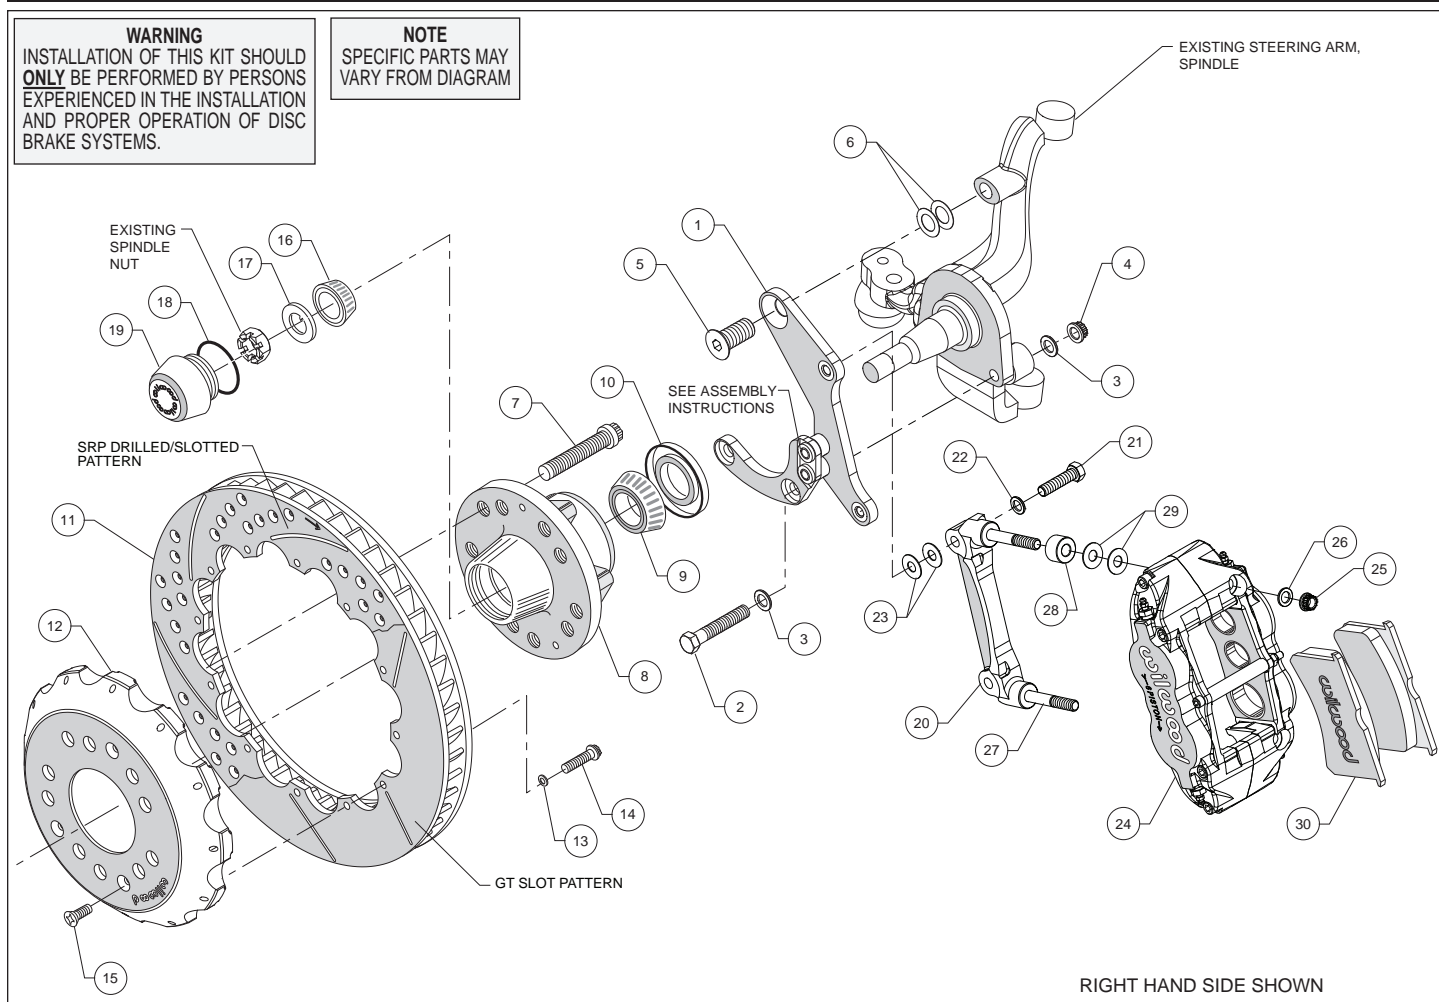
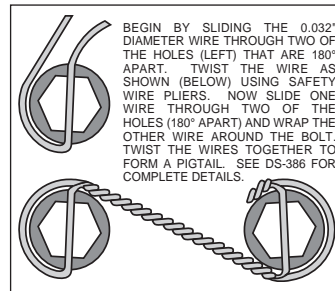
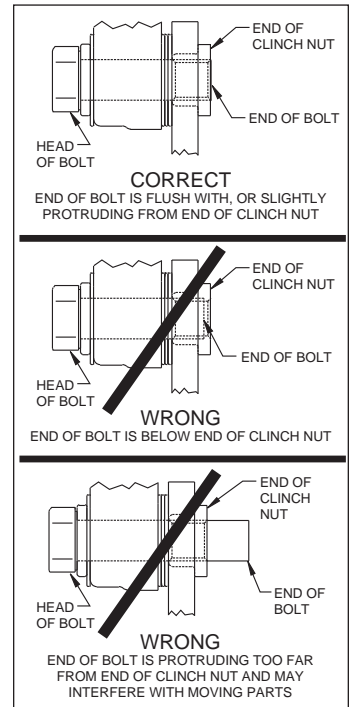

Figure 1. Typical Installation Configuration
Figure 3. Safety Wire Diagram
Figure 4. Clinch Nut Engagement Diagram
Assembly Instructions (numbers in parenthesis refer to the parts list and Figure 1 on the preceding pages): **CAUTION:** All mounting bolts must fully engage clinch nuts. Be sure to check that all bolts are either flush or protruding through flanged side of clinch nut after shimming, Figure 4.
•The spindle bracket (1) has been assembled at the factory for alignment purposes. Loosen the two bolts that secure the brackets together so that the bolts are hand tight only. This will enable the bracket assembly to be adjusted to accommodate various spindle tolerances during assembly. Align bracket with the two lower holes on the spindle face and attach using bolts (2), washers (3), and secure using nuts (4), as shown in Figure 1 and Photo 1. Install bolt (5) through top of bracket while placing shims (6) between bracket and spindle, Figure 1. Initially use two .024" thick shims (6) on the top bolt between the bracket and upright. Temporarily tighten the mounting bolts. Ensure that the flanged heads of the clinch nuts in the bracket are facing outboard, Photo 1. **NOTE:** The bracket must fit squarely against the mounting points on the spindle. Inspect for interference from casting irregularities, machining ridges, burrs, etc. Some spindles may require a small amount of grinding to clear the bracket assembly in the area of the bracket-to-bracket spacers.
•Check that the bracket is aligned parallel to the rotor by assembling and installing the hub/rotor per the step below. If not, adjust by adding or subtracting shims (6) between the spindle and bracket, Figure 1.
•Install wheel studs (7) into the hub (8), Photo 2. Torque to 77 ft-lb. **NOTE:** There are two five lug patterns in the hub (5 x 4.50 and 5 x 4.75). Ensure the correct hub stud pattern is being used to fit the wheel application.
•Pack the large inner bearing cone (9) with high temperature disc brake bearing grease (available from your local auto parts store) and install into the backside of the hub (8), Photo 3.
•Install the grease seal (10) by pressing into the backside of the hub (8), flush with the end of the hub, Photo 3.
- Orient the rotor (11) and the hat (12) as shown in Figure 1 and Photo 4. Attach rotor to hat using bolts (14) and washers (13). Using an alternating sequence, apply red *Loctite*® 271 to the threads, and torque to 155 **in-lbs**. For an added measure of security, the bolts may be safety wired using standard 0.032 inch diameter stainless steel safety wire as shown in Figure 3. Refer to Wilwood's data sheet DS-386 (available at www.wilwood.com/Pdf/DataSheets/ds386.pdf) for complete safety wire installation instructions.
- Slide the hat/rotor assembly (11/12) onto the hub (8) taking care to align the small countersunk holes in the hat (12) with the small threaded holes in the hub. **NOTE:** *The hat must fit flush against the hub face or excessive rotor run out may result.* Install three flat head screws (15) through the small holes in the hat, Photo 6, and torque to 85 **in-lb**.
- The caliper mount bracket (20) should initially be installed with clean, dry threads on the mounting bolts. Orient the bracket as shown in Figure 1 and Photo 7, and install using bolts (21) and washers (22). Initially place two .035" thick shims (23) on each bolt between the bracket and the spindle bracket (1), Figure 1. Temporarily tighten the mounting bolts. Later, after the caliper alignment has been checked, the mount bolts will be secured using red *Loctite*® 271.
- **NOTE:** *This kit contains distinct right and left hand calipers that must be mounted in a specific direction, as described below.* Lubricate the caliper mounting studs (27) with lightweight oil. Initially place two .035" thick shims (29) and one spacer (28) on each stud between the caliper and the bracket, as shown in Figure 1 and Photo 8. Mount the caliper (24) onto the bracket (27) using lock nuts (25) and washers (26), Figure 1. Ensure that the caliper is mounted so the largest pistons are at the rotor exit end of the caliper, in relation to the direction of rotor rotation. Temporarily tighten the lock nuts and view the rotor through the top opening of the caliper. The rotor should be centered in the caliper, Photo 9. If not, adjust by adding or subtracting shims (23) between the spindle bracket (1) and the caliper bracket.
Always use the same amount of shims on each of the two mounting bolts. **NOTE:** *The end of each bolt must be flush with or slightly protruding from the head of the clinch nut, as shown in Figure 4.* If necessary place spare shims between washer (22) and caliper mounting bracket to achieve the proper clinch nut engagement. Once the caliper alignment and clinch nut engagement are correct, remove the bolts one at a time, apply red *Loctite*® 271 to the threads, and torque to 40 ft-lb.